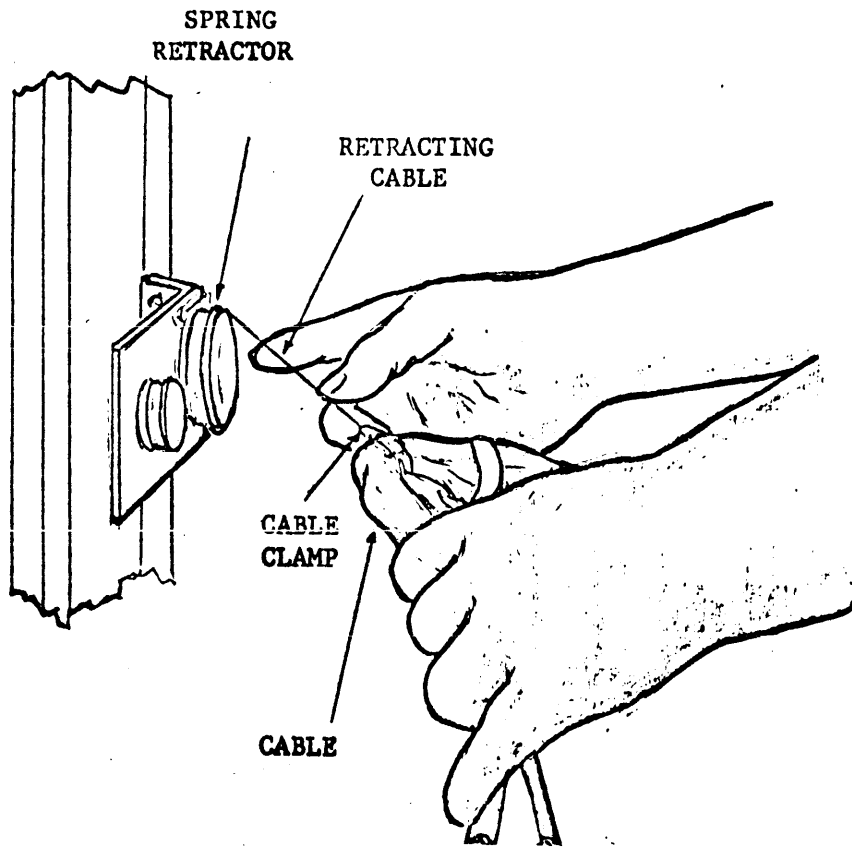

Figure 2-3. Attaching Cable Retractor
(2) Pull center section of associated compartment track out until it locks in an extended position.
(3) Position slide mechanisms of modular unit in tracks, and ease modular unit forward into rack until release buttons engage holes in track.
(4) Make the necessary cable and electrical connections as described in paragraph 2-4b. To prevent the cables extending from the modular units from snagging, utilize the cable retractors located inside the rack in the rear (see figure 2-3).
(5) Depress release buttons and slide modular unit completely into compartment.
(6) Secure front panel of modular unit to rack with screws.